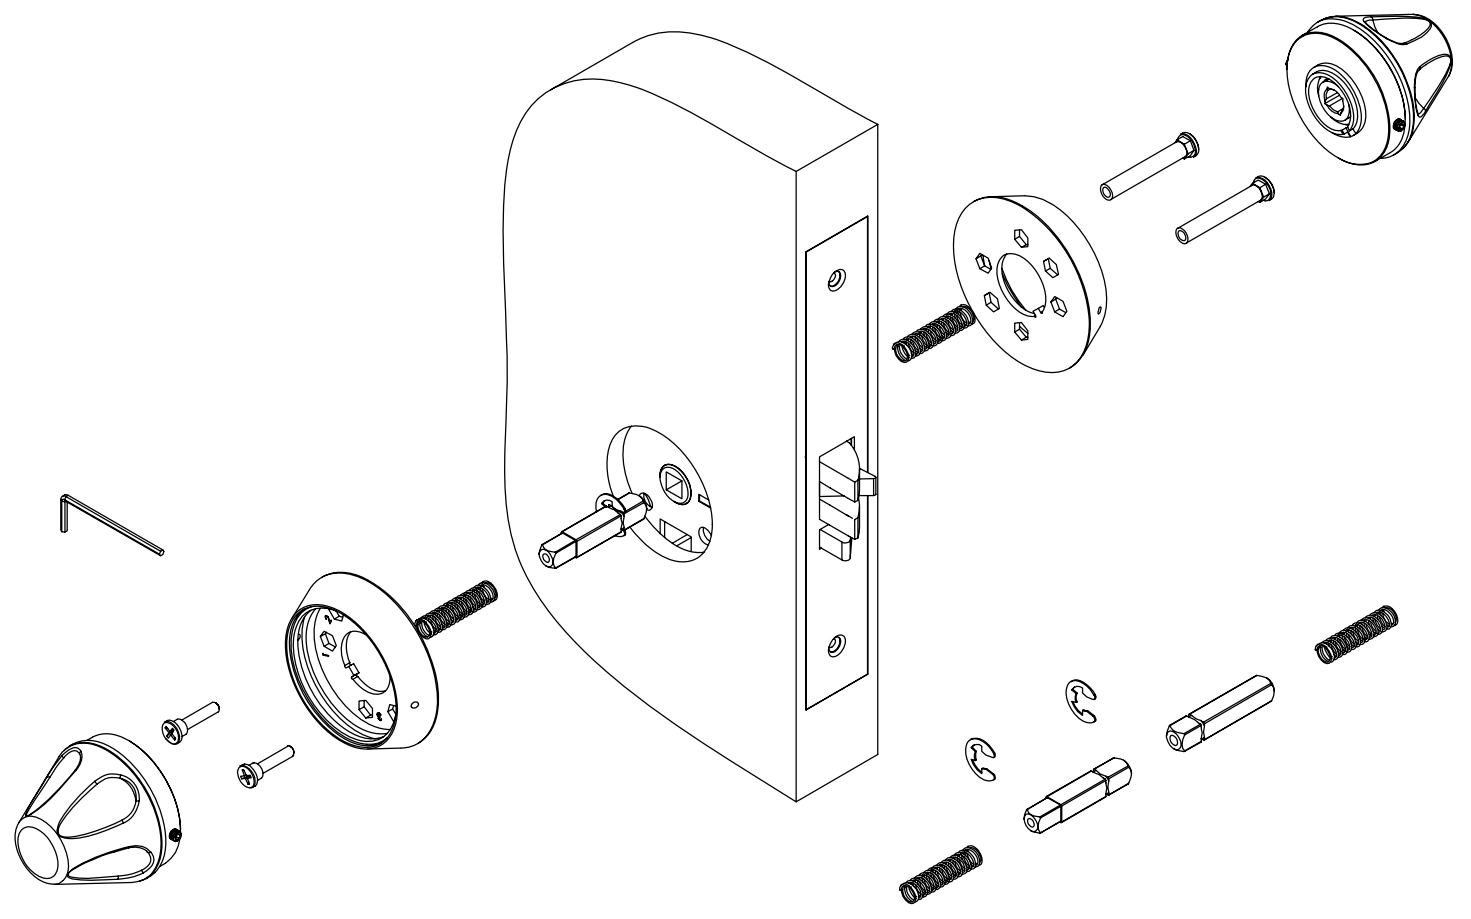

FIG 4
8. INSERT THE ALLEN WRENCH THROUGH EACH HOLE (2 IN EACH ROSE) TO ENGAGE THE SET SCREW AND SECURE THE KNOB ASSEMBLY. ROTATE COUNTERCLOCKWISE TO TIGHTEN IN THE ASSEMBLY AND ROTATE CLOCKWISE TO LOOSEN. SEE FIG 4.